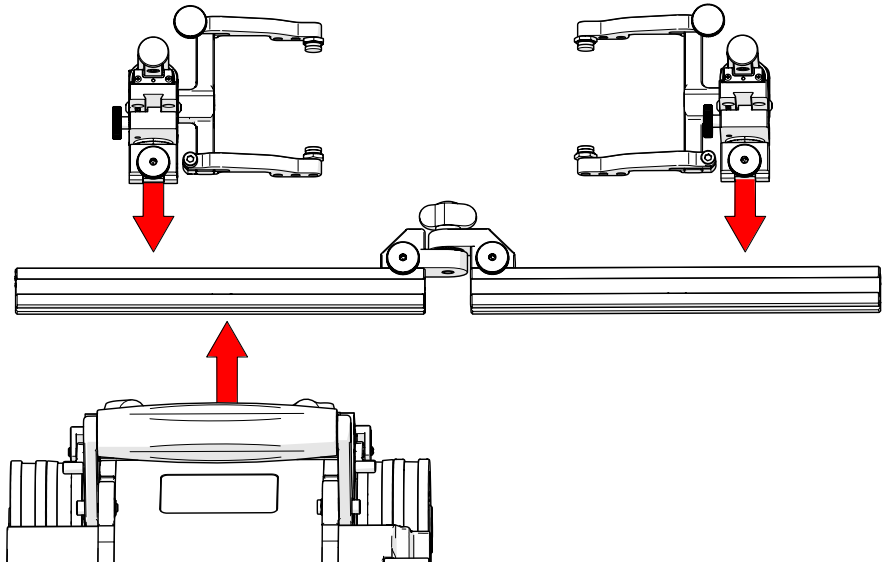

Fig. 192 - Configure assembly and mount to SKOOT
1. Disassemble the pivoting probe holder frame to achieve the setup shown (Fig. 192). Ensure proper placement of the frame bar with attached mounting point in relation to the **SKOOT**.